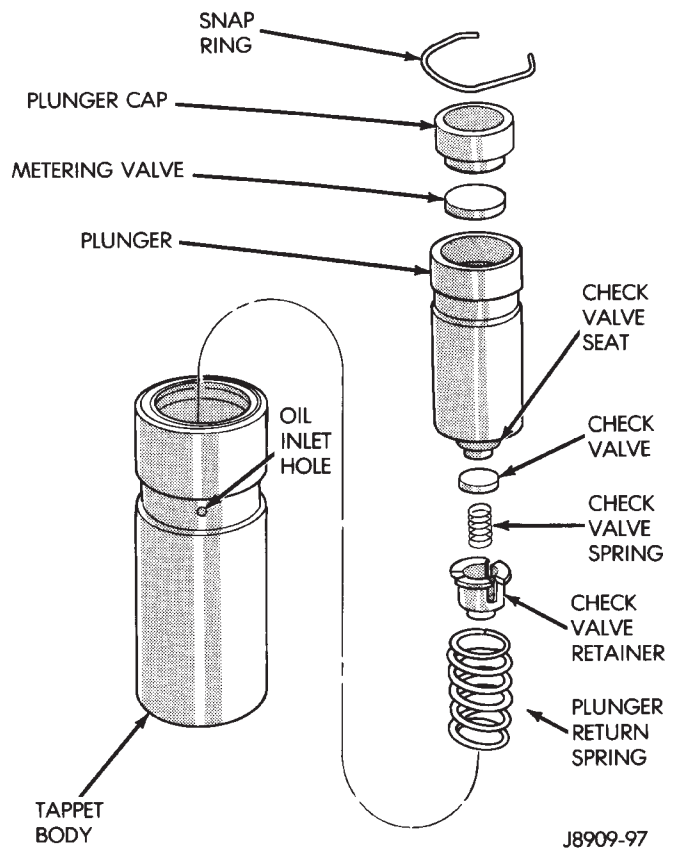

Fig. 25 Hydraulic Tappet Assembly
- (1) Release the snap ring.
- (2) Remove the following from the tappet body (Fig. 25):